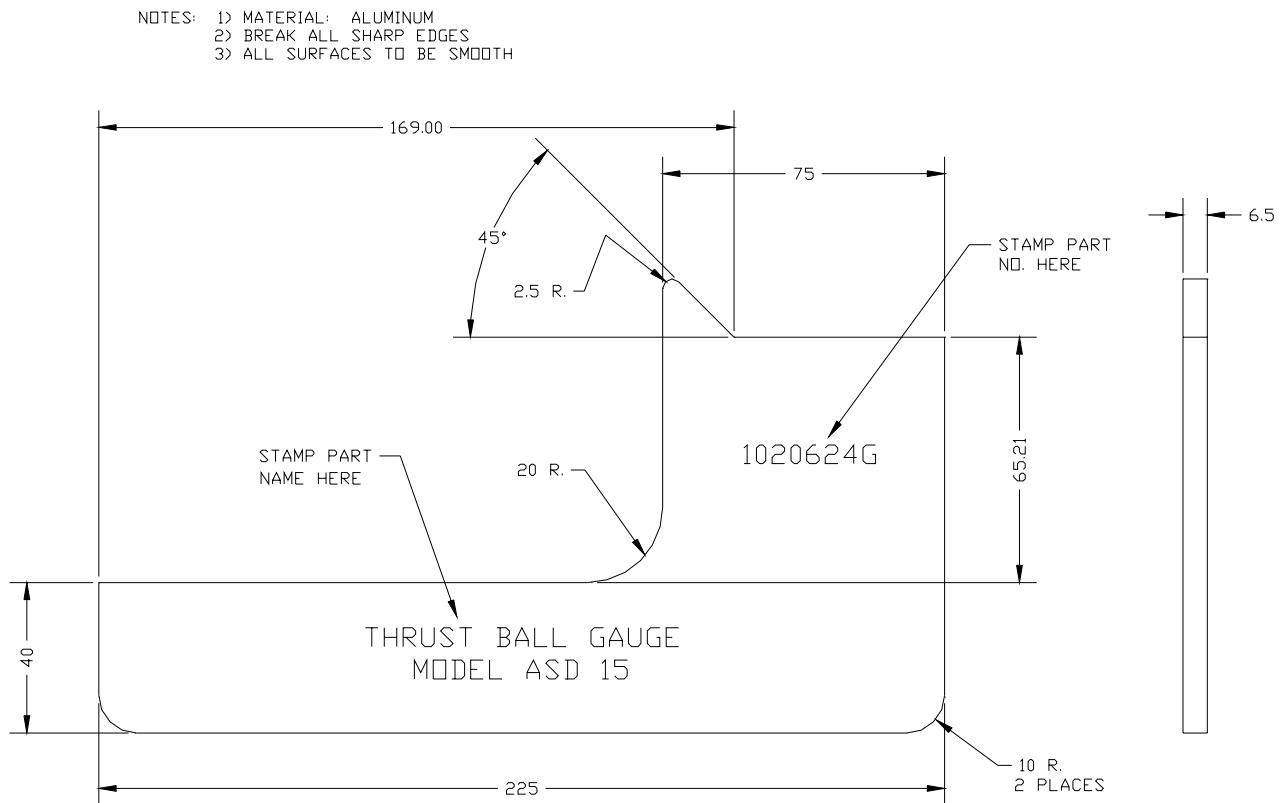

Figure 22. Centering Gauge
3. Position the drive unit at the center trim height. This is determined by setting the drive unit ball joint in the exact center of the socket. Determine this measurement using the Thrust Ball Centering Gauge supplied with the package. See Figures 22 and 23. Lay the tool against the ball shoulder and adjust the unit so that the tool fits evenly all the way around the circumference of the socket. This assures that the unit is in line with the socket and input shaft so that the entire unit is in a straight line. This is referred to as the *neutral running angle*.